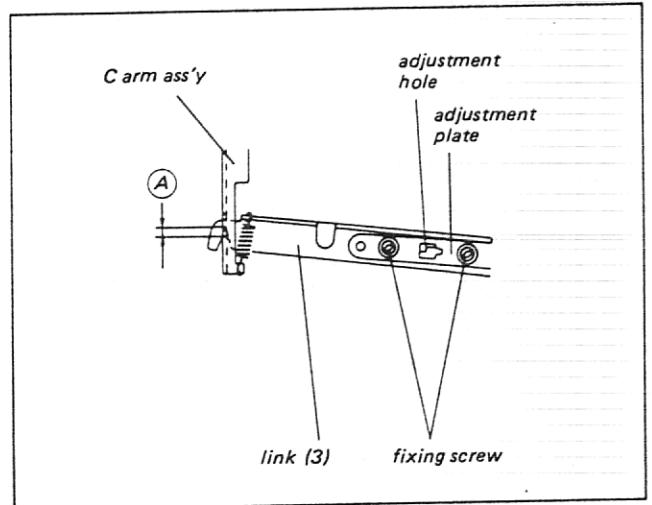

Fig. 7-3
4. Adjust the adjustment hole as shown in Fig. 7-3 so that the hole of the C arm ass'y and the space (A) of the link (3) meets 0.6 to 1.5 mm.